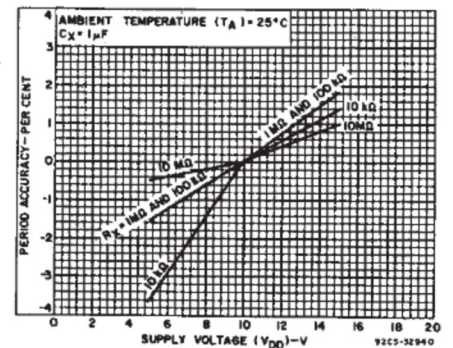

Fig. 11—Typical astable oscillator or Q, $\bar{Q}$ period accuracy vs. supply voltage.
B. Variations Due to V_{DD} and Temperature Changes — In addition to variations from unit to unit, the astable period varies with V_{DD} and temperature. Typical variations are presented in graphical form in Figs. 11 to 18 with 10 V as reference for voltage variation curves and 25°C as reference for temperature variation curves.